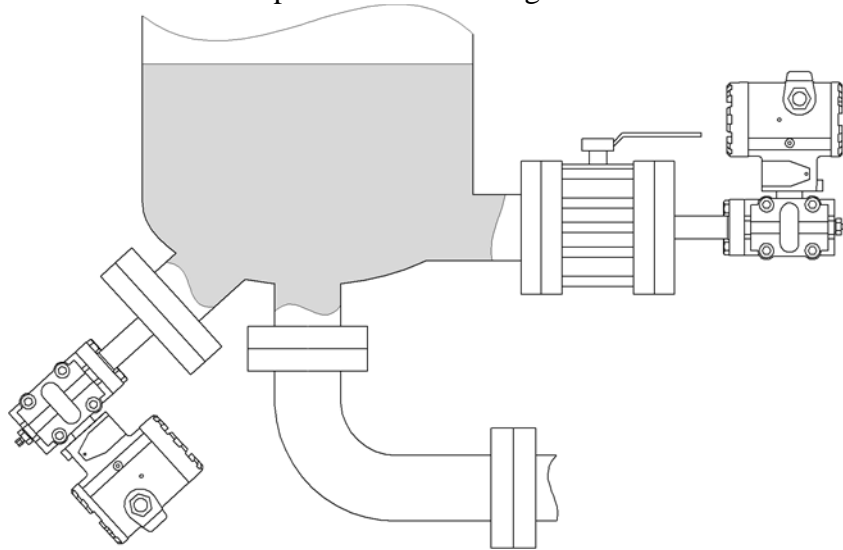

Figure 17 - Installation diagram of the level measurement sensor
2.2.10 Level gauge must be located at the lowest measuring point. It is not allowed to install the transmitter in the flow of the loaded medium or in the place of the tank not protected against pressure surges (suction zone of pump unit, agitator). For ease of operation, the transmitter should be installed behind the shut-off device. Installation examples are shown in figure 17.